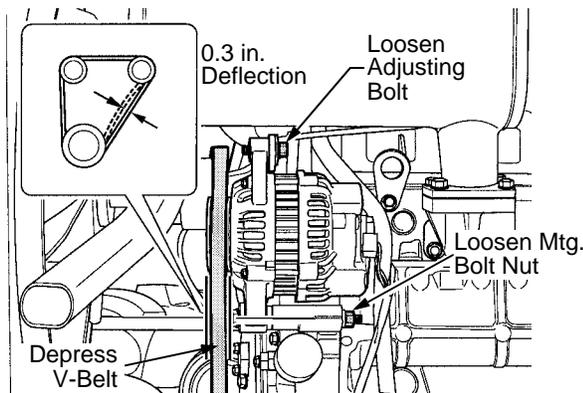

Figure 43
- With approximately 22 lbs. of pressure, depress the backside of the belt at its center point between the alternator and lower engine pulley. The deflection of the belt should be approximately 0.3 inches. See Figure 43.
- If adjustment is needed, loosen the nut on the alternator mounting bolt and loosen the adjusting bolt. See Figure 43.